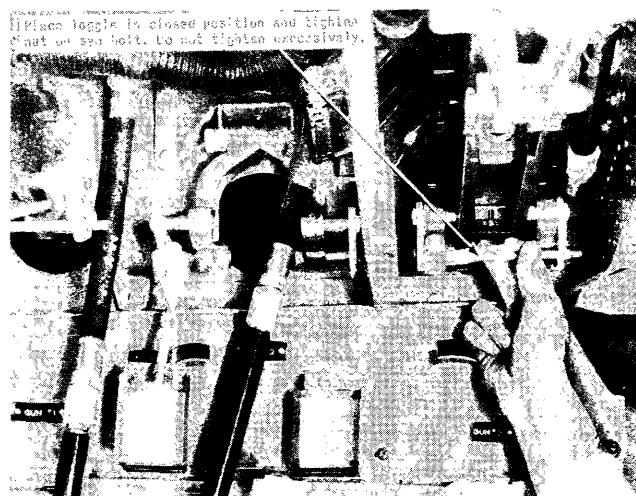
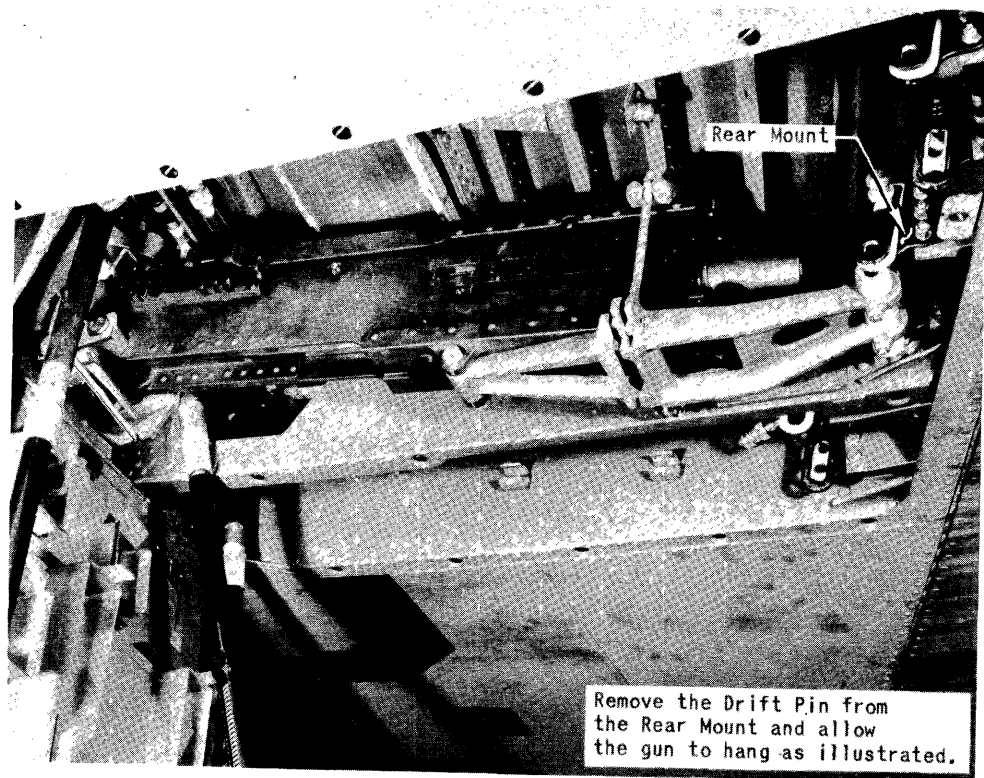

Figure 16 - Front Adapter Locked on Gun
Figure 17 - Rear Mount -
(3) To Install the Gun in the Front Adapters. - Raise the forward part of the gun until the holes align with the pins on the locking pin plates. This step may be facilitated by inserting the socket wrench handle under the front gun lug and forcing the gun up until the holes on the gun and pins are aligned. Push the locking pins into the mount holes in the gun, swing the eyebolt up to engage the outboard lockpin plate and throw the toggle up to lock the gun in the adapter. (See figure 16.) Remove the driftpin and allow the rear of the gun to hang free as illustrated in figure 17.
(9) Release the toggle on the front adapter. Swing the eyebolt down and pull out the lockpin plates on either side of the gun. This will release the gun from the adapter without disturbing the adjustment. (See figure 16.)